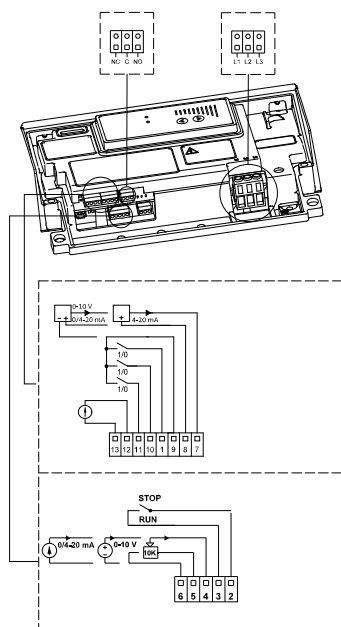

Fig. 20 AYB connector plug
- d. Remove the AYB connector plug from the first MLE motor. See fig. 20.